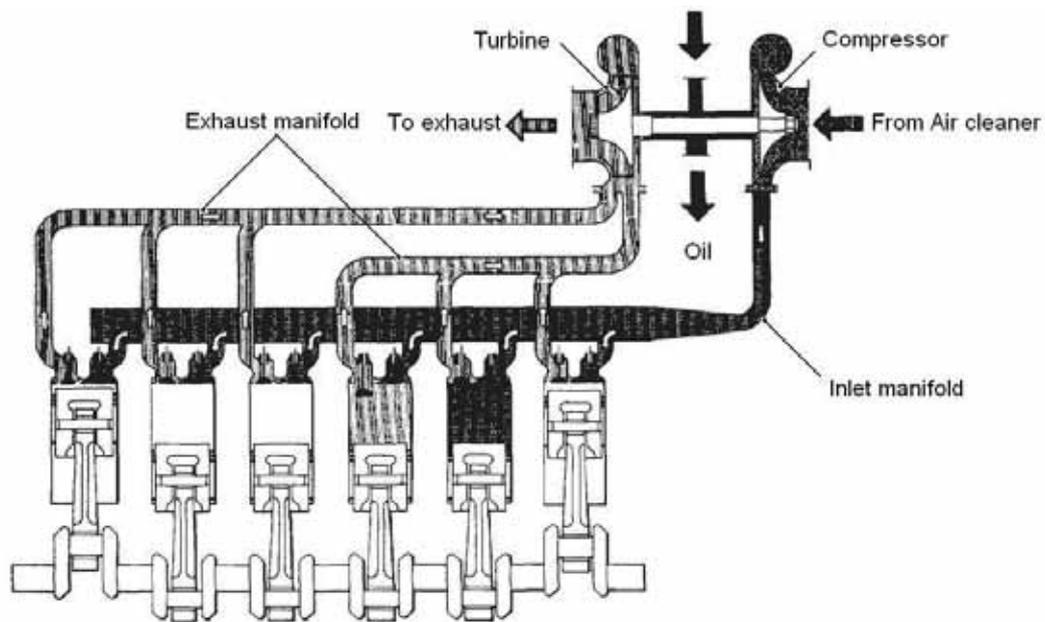

Figure 11 Turbocharger Operation
33. The turbocharger (Figure 11) is mounted on the engine exhaust manifold. Air is drawn through the air cleaner by the compressor, compressed and delivered to the engine inlet manifold causing the following results: